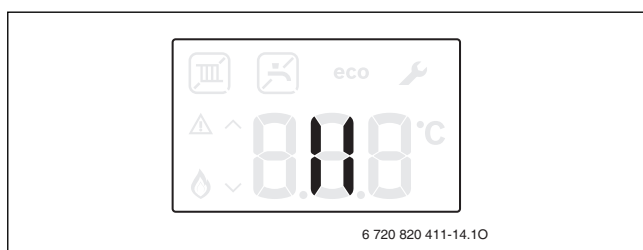

Fig. 19
- ▶ Start the appliance at the standby key (→ Fig. 19).